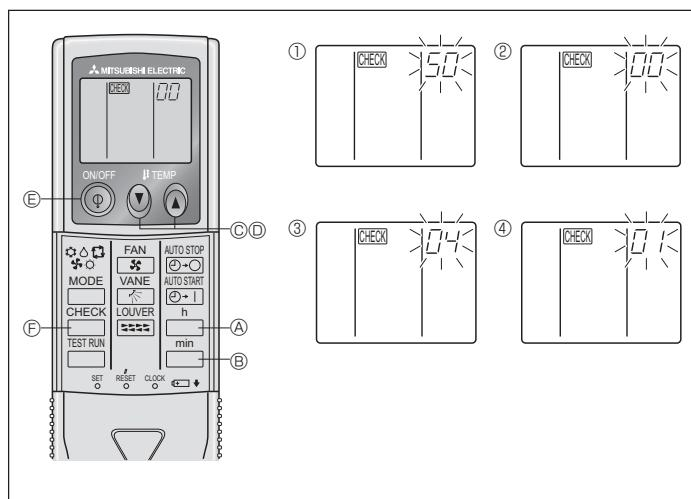

Fig. 6-9
⑧ Press the MODE button ② and mode and the setting number (Ⅰ) and (Ⅱ) will change to being on constantly and the contents of the setting can be confirmed.
⑨ Press the FILTER ④ and TEST RUN ⑤ buttons simultaneously for at least 2 seconds. The function selection screen will disappear momentarily and the air conditioner OFF display will appear.
2) For wireless remote controller (Fig. 6-9)